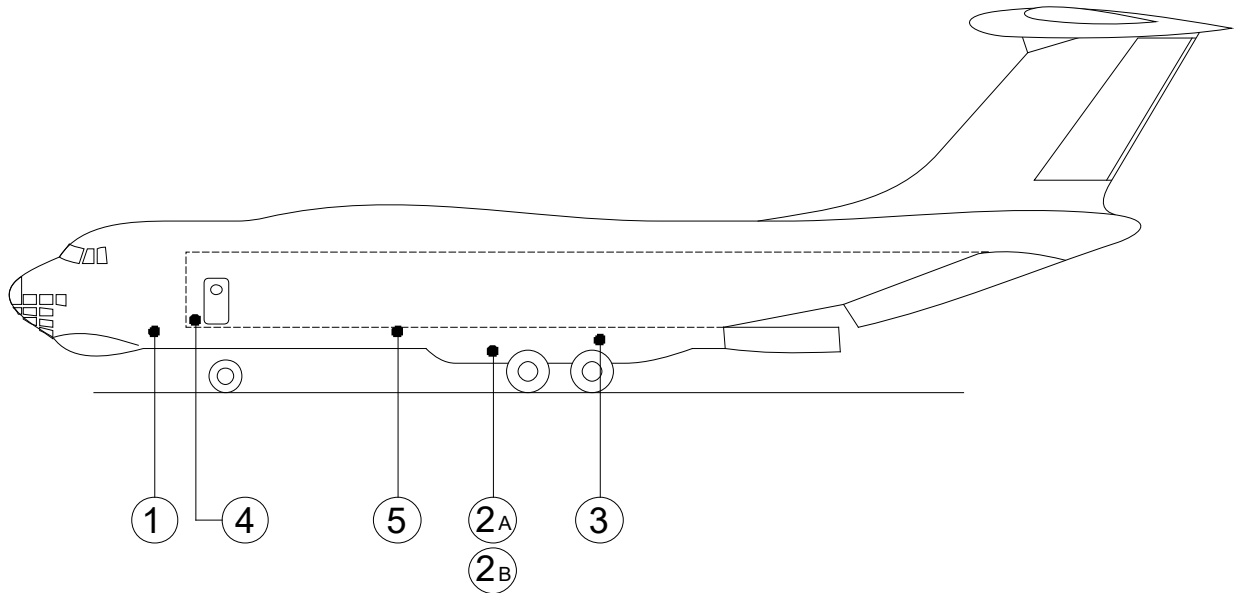

Figure 12. Layout of ground handling draw-off points for IL-76TD-90VD
- Figure 12. Layout of ground handling draw-off points for IL-76TD-90VD;